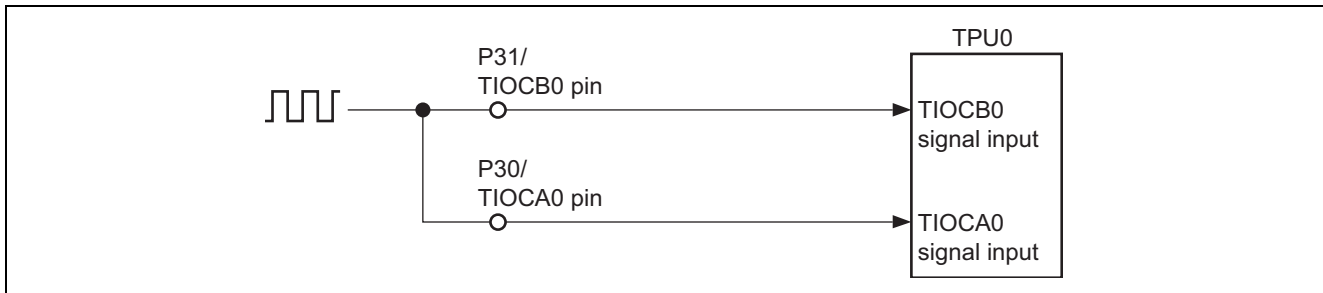

Figure 2 Example of Connection for Conventional Pulse Measurement
Figures 2 and 3 illustrate examples of connection for conventional pulse measurement and connection for pulse measurement by using multiplexed TPU and I/O pin functions, respectively. Setting the PFCR9 bit for the multiplexed TPU and I/O pin functions to 1 makes TIOCA (C), the input pin for TGRA (C), the same port pin as TIOCB (D). Therefore, input capture to TGRA (C) and TGRB (D) can be accomplished with a single pin that functions as both TIOCB (D) and TIOCA (C).